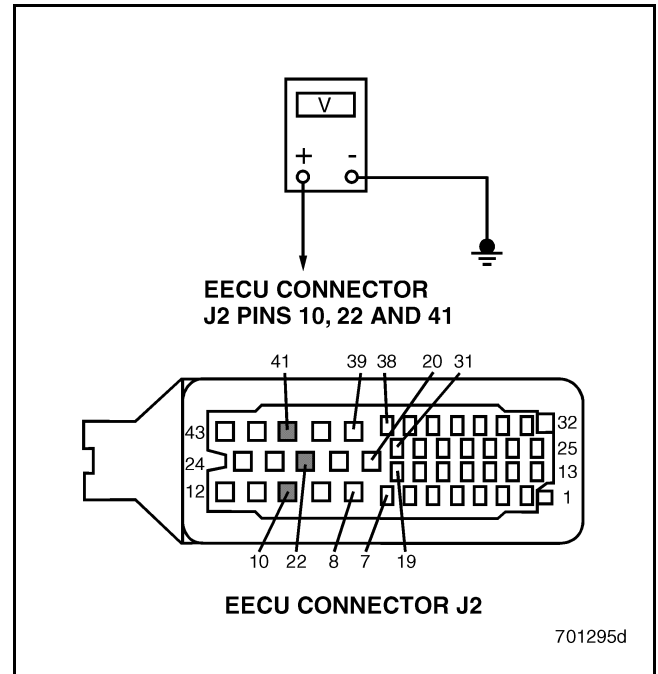

Figure 641
4. Measure the voltage between EECU connector J2 pins 10, 22 and 41 versus a good ground (see Figure 641).